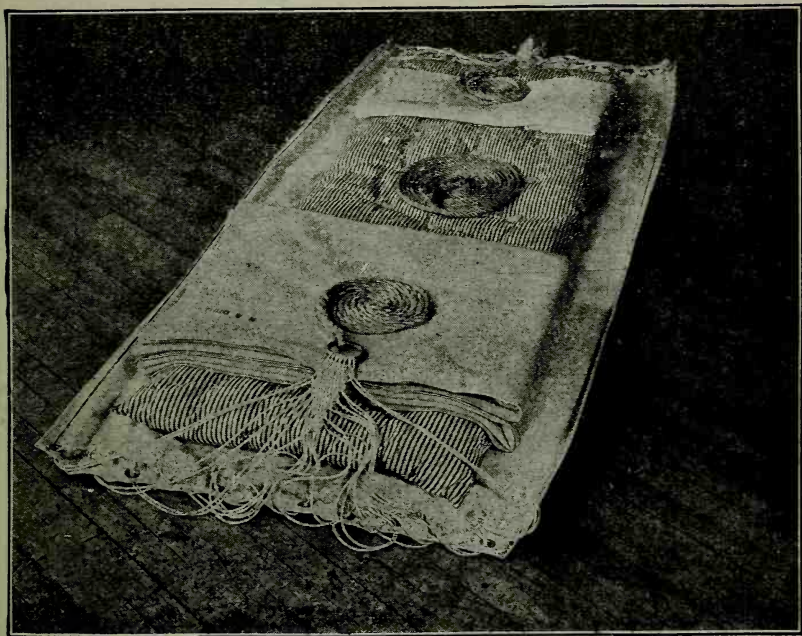

FIG. 3-1—Hammock laid out for inspection.
**Inspection.**—Hammocks are inspected after they have been piped down, subsequent to airing, or as ordered. At the command "*Lay out hammocks for inspection,*" unlash, and spread out the hammock, the name on the mattress being turned toward the inspecting officer. Fold the mattress cover and the blankets twice crosswise, placing the mattress cover 10 inches from the head and the blankets 10 inches from the foot of the mattress. Throw the clews over the mattress and coil the lashing in the center. Five minutes after the command "*Lay out hammocks for inspection,*" the order "*Attention*" will be given. Men stand at attention at the end of their hammocks until the inspection is over. The inspecting officer inspects all blankets, mattress covers, mattresses, and pillows to see that they are properly marked according to regulations and are clean. See Fig. 3-1 for hammock laid out for inspection. On vessels equipped